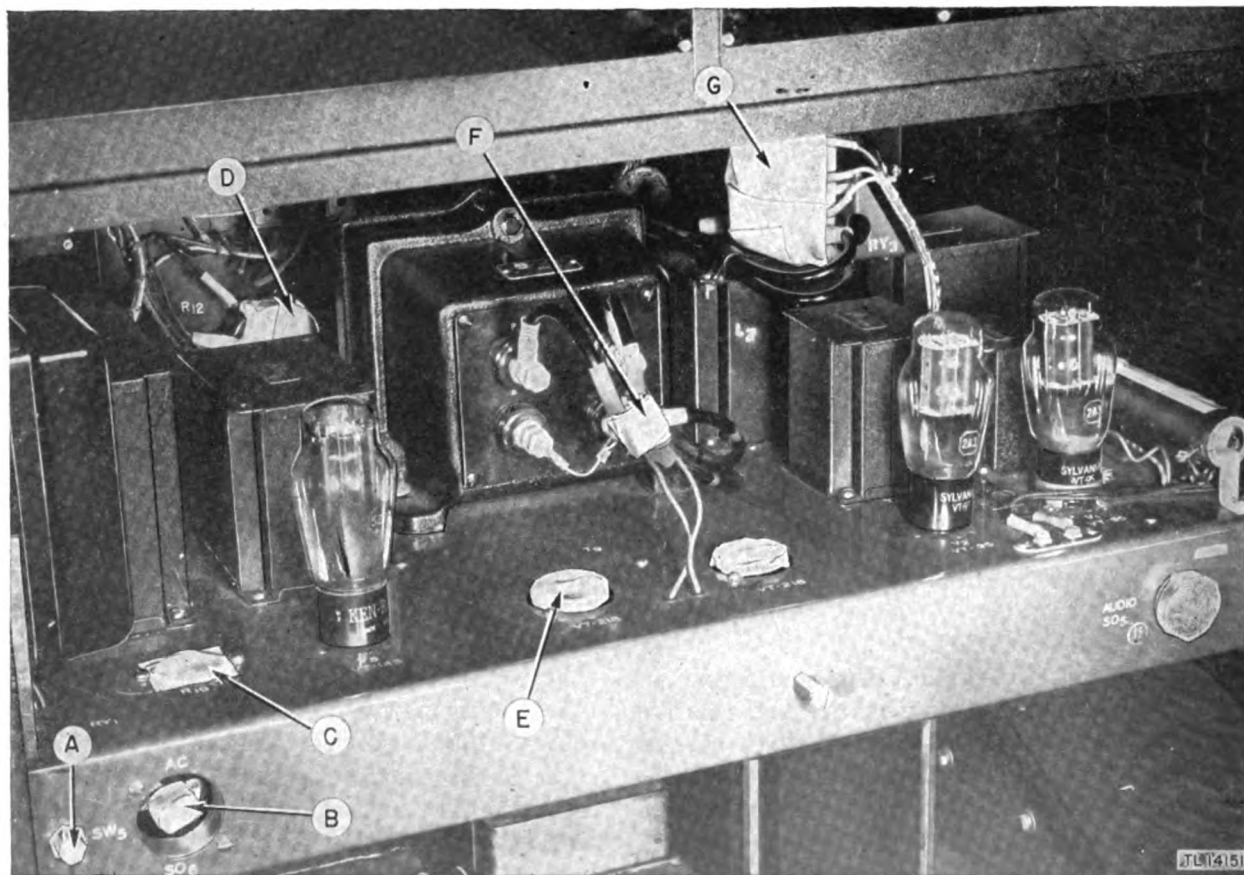
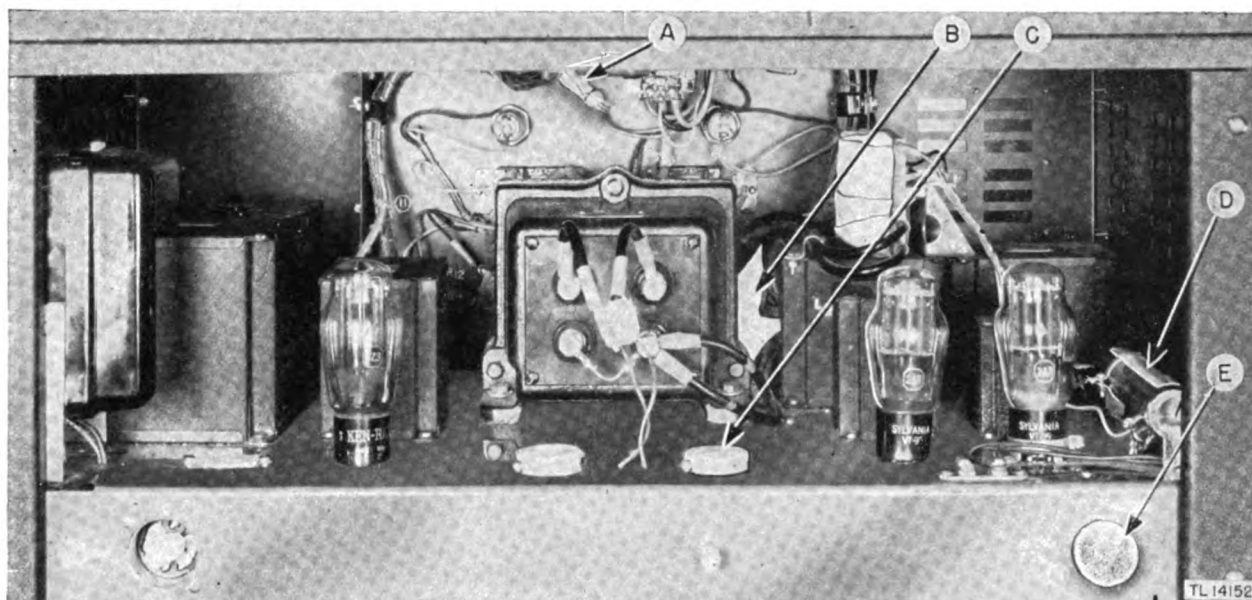
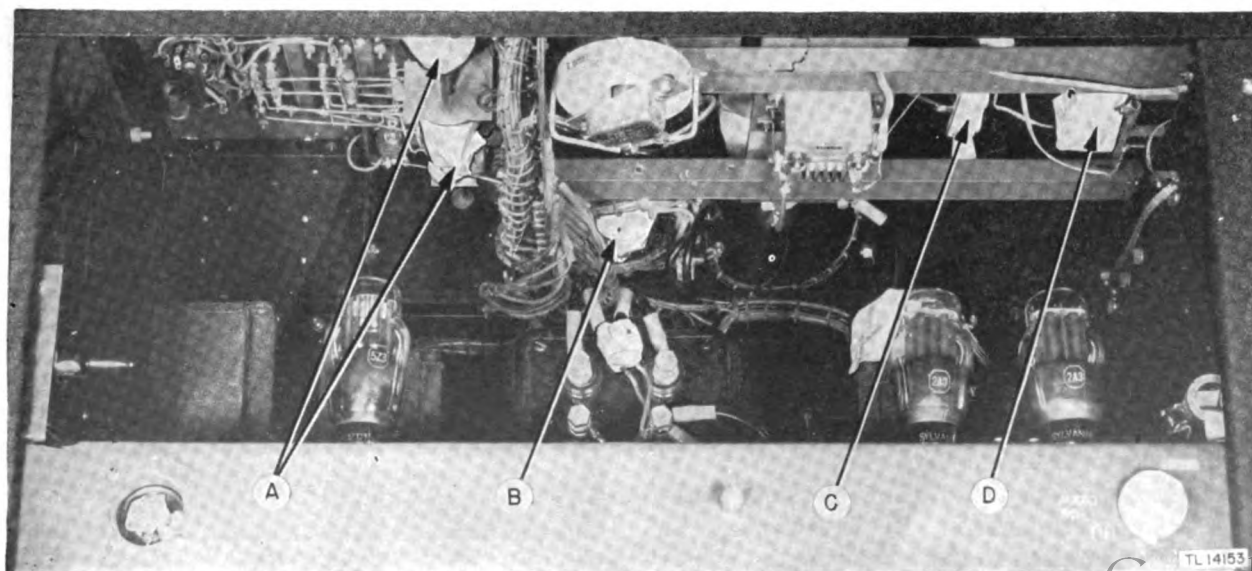

Figure 32. Radio Transmitter BC-610-E—rear interior view of chassis, showing method of masking.
Figure 33. Radio Transmitter BC-610-E—rear interior view of chassis, showing method of masking.
Figure 34. Radio Transmitter BC-610-E—bottom interior view of r-f chassis, showing method of masking.
b. DISASSEMBLY. (1) Remove seven screws holding cover plate to back of the set; remove plate.
(2) Tilt the set forward, or place it on its face. Be careful not to rest it on any of the projecting dials or knobs on the front panel.
(3) Remove resistor R_{19} from its socket. This resistor is not to be treated.
(4) Remove Tubes VT-218 from sockets V_3 and V_4 . These tubes are not to be treated.
(5) Remove capacitor C_{28} from its contact clips. This capacitor is not to be treated.
(6) Remove antenna coil unit. Antenna coils are not to be treated.
(7) Remove crystals from tuning units. Do not treat crystals.
(8) Clean all dirt, dust, rust, fungus, oil, grease, etc., from the equipment to be processed.
c. MASKING. Cover the following components with masking tape as shown in figures 32, 33, 34, 35, and 36.
(1) Interlock switch SW_5 , item A, figure 32.
(2) Contacts on socket SO_6 , item B, figure 32.
| (3) Socket of resistor R_{10} , item C, figure 32. | (11) Sliding contact area of variable resistor R_{11} , item D, figure 33. |
| (4) Variable resistor R_{12} , item D, figure 32. | (12) Audio socket SO_5 , item E, figure 33. |
| (5) Tube socket V_4 , item E, figure 32. | (13) Wafers of BAND CHANGE switch, item A, figure 34. |
| (6) Contacts on four leads to Tubes VT-218, item F, figure 32. | (14) EXCITATION METER switch SW_8 , item B, figure 34. |
| (7) Relay RY_3 , item G, figure 32. | (15) Underside of jacks which receive antenna coil, item C, figure 34. |
| (8) Contacts of push-button switch SW_{12} , item A, figure 33. | (16) Relay RY_4 , item D, figure 34. |
| (9) Variable resistor R_{18} , item B, figure 33. | |
| (10) Tube socket V_3 , item C, figure 33. | |